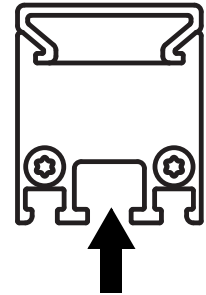

Figure 5: Track for M6 bolt
4. See Figure 5. Slide the bolt heads into the track (arrowed) in the fixture either from the end of the fixture or through the cutouts provided in the track.